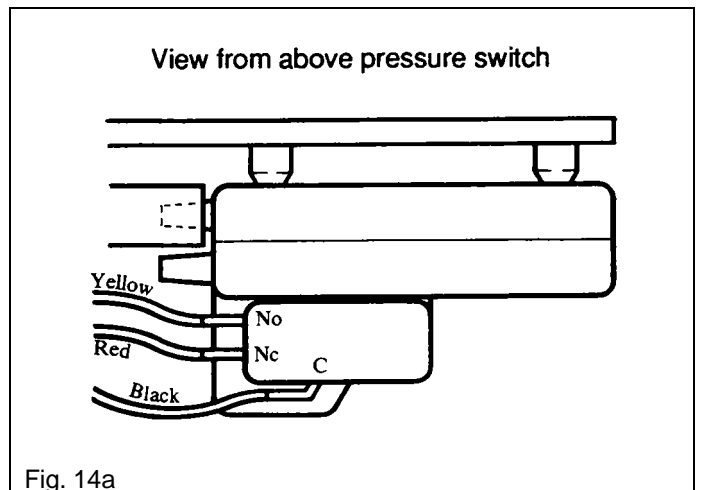

Fig. 14a
- Place the fan assembly on top of the flue hood with the outlet facing to the rear and reconnect the leads, see Fig. 14a, as follows:
2. Place the fan assembly on top of the flue hood with the outlet facing to the side from which the flue is to exit (for right hand exit the fan will be at the front, for left hand exit the fan will be at the back) and reconnect the leads, see Fig. 14a, as follows: